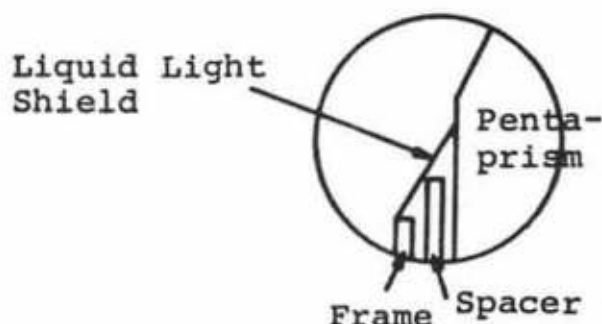

Fig. 2-33
3. Run light shield (Toray Silicon SC5002 Black) between the prism, spacers and frame so that it covers completely to block light leaks. Apply on all sides except the rear (eyepiece) side. (Fig. 2-33)